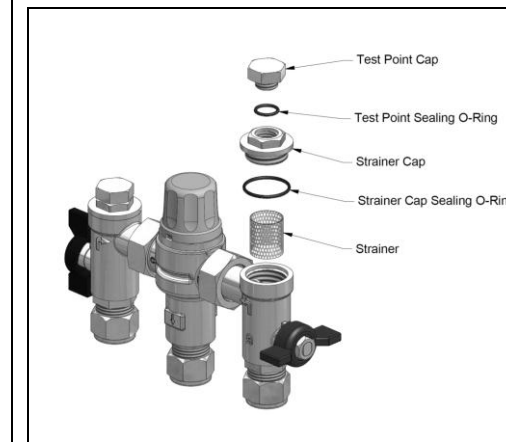

Figure 5 Servicing the Inlet Fittings
- Remove the inlet fitting strainer cap with a suitable spanner and then remove the mesh strainer, as shown in Fig. 5 below.